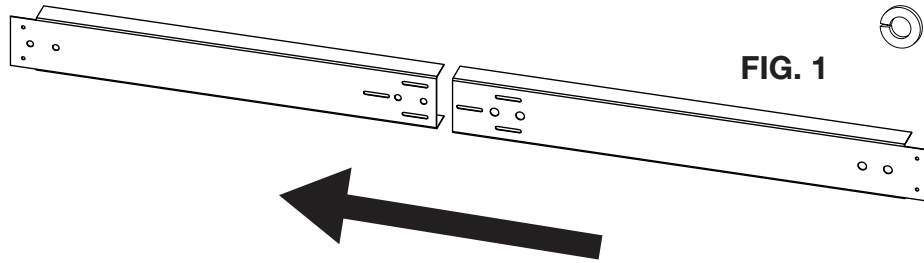

FIG. 1
1. Slide the 2 steel header pieces together, ensuring to align the 3 slots (FIG. 1).